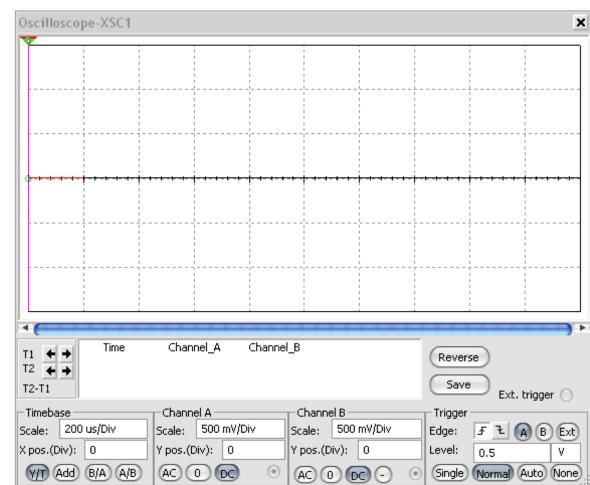

Figure 5: Scope setup
4. Double-click on the scope to bring up the real scope display (see Figure 5).